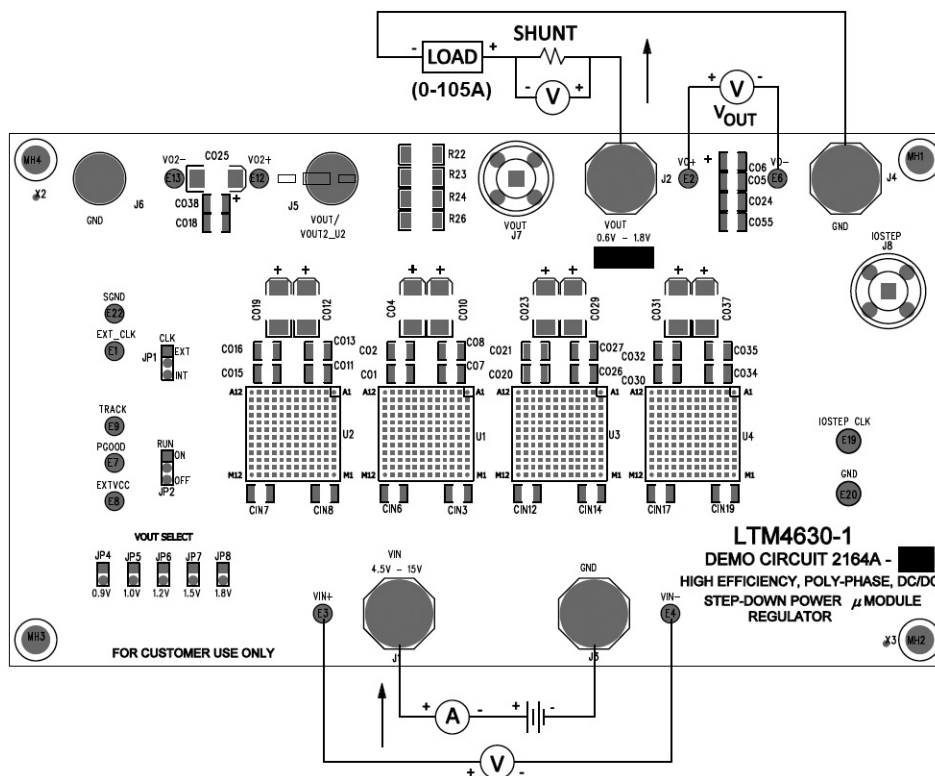

Figure 2. Test Setup of DC2164A-B
Demonstration circuit 2164A-B is easy to set up to evaluate the performance of PolyPhase operation of the LTM4630EY-1. Due to the high input/output current, user should select the proper input supply/load/cable which can sustain the full load operation. It's recommended to pull load current from J2 and J4. The load current pulled from J5 and J6 shouldn't exceed 18A. Please refer to Figure 2 for proper measurement setup and follow the procedure below:
- With power off, connect the input power supply, load and meters as shown in Figure 2. Preset the load to 0A and V_{IN} supply to 12V.